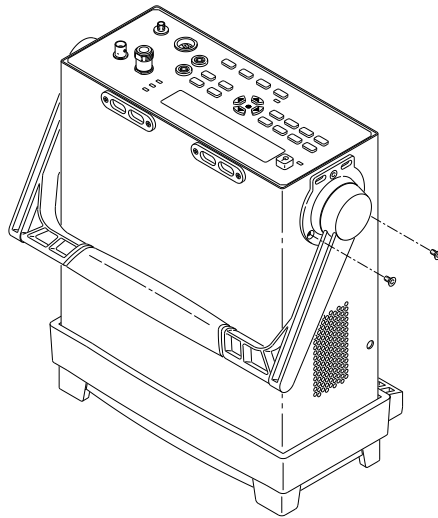

Figure 3-2 Removing the Handle
- 3 Position the handle so that it is against the top surface of the shroud (see Figure 3-2).